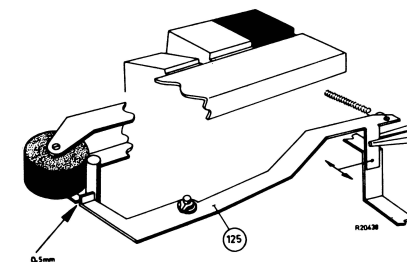

Fig 38
- When the apparatus is in position "playback", the distance between the pressure roller lever and the lever 125 for the rapid stop should be 0.3 - 0.5 mm (see fig. 38). This can be adjusted by bending the vertical lip of the lever.